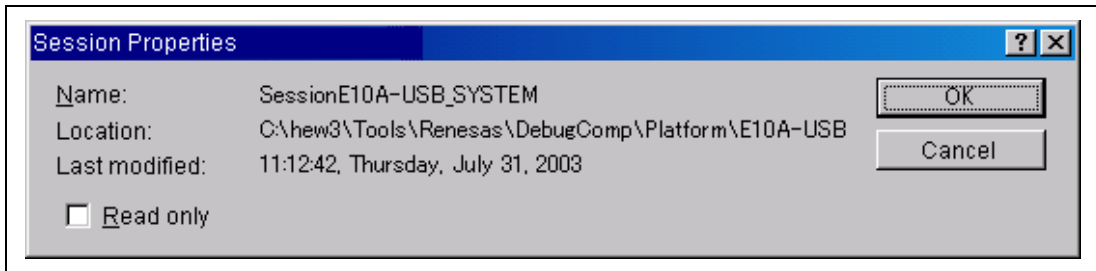

Figure 4.31 [Session Properties] Dialog Box
3. Click the [Properties] button to display the [Session Properties] dialog box (figure 4.31).